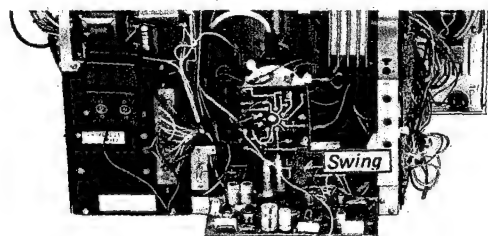

Fig. 2-21.
3. Swing the top edge of the P1 circuit board down until the board rests in a horizontal position as shown in Fig. 2-21.